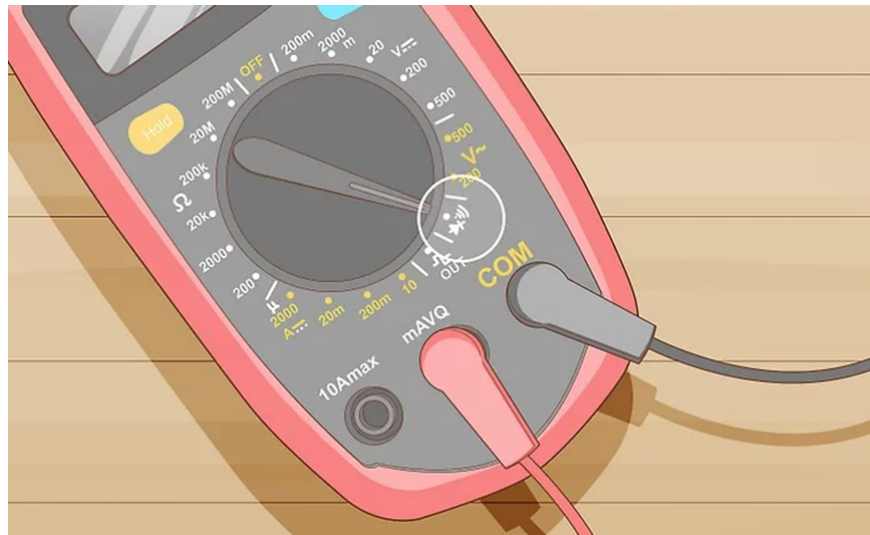

Figure 1: Testing Continuity with a Multimeter
2. Refer to the breadboard illustration in the (Appendix Figure 4) to familiarize yourself with the breadboard layout and use the DMM on the continuity setting (Figure 1) to confirm the connections